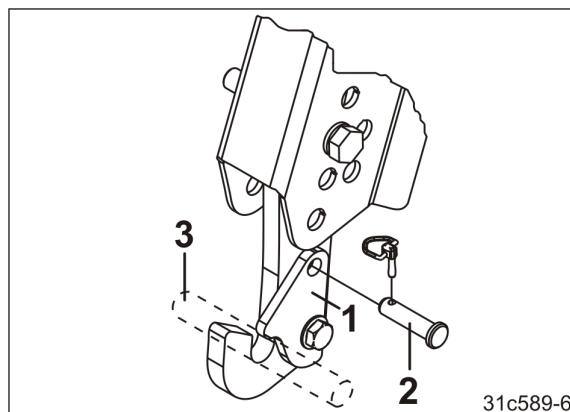

Fig. 98
2. Release the locking straps (Fig. 98/1).
- 2.1 Remove the pins (Fig. 98/2).
5. Engage the lower pivot points (Fig. 98/3) of the seed drill using the catch hooks.
7. Swivel the locking straps (Fig. 98/1) and secure each with a pin (Fig. 98/2). Secure the pins with lynch pins.